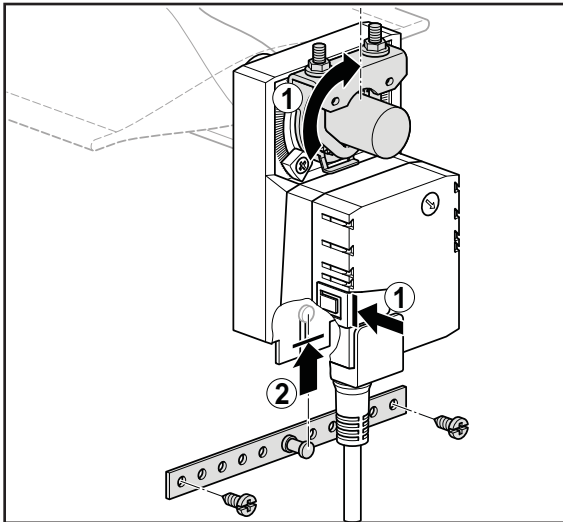

Figure 17. Installation of the outside air damper and actuator.
2. Set the outside air damper to 50% open by pushing and holding the manual override button on the damper actuator and manually rotating the damper into the desired position. Place the upper set screw on the actuator to limit the damper open area to this setting. Position the lower set screw such that it allows the damper to fully close. Restart the unit and read the airflow rate. (See *Figures 17 and 18*.)